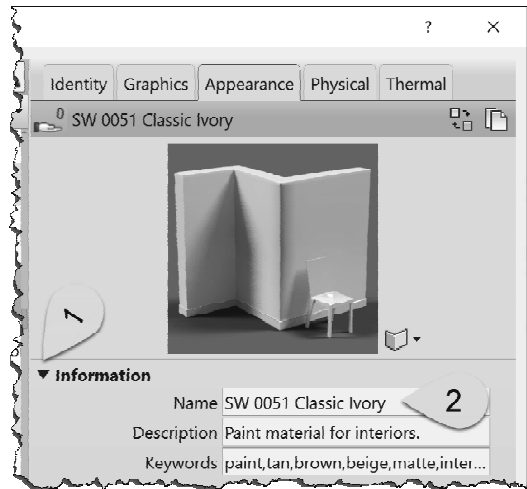

FIGURE 4-3.16 Rename new asset
- 46. Expand the **Information** area in the *Appearance* tab (Figure 4-3.16).